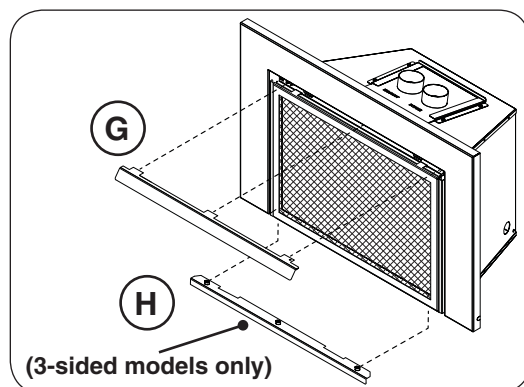

Fig. 36-2 Install eyebrow / bottom trim
5. Install the eyebrow into the opening on the surround, just above the screen. The eyebrow has 3 tabs that install into the 3 hems located underneath the top side of the surround. See Fig. 36-2, "G".
6. For 3-sided surround models only, install the bottom trim underneath the glass panel frame. The trim has magnets that will secure the trim directly to the bottom of the panel frame. See Fig. 36-2, "H".